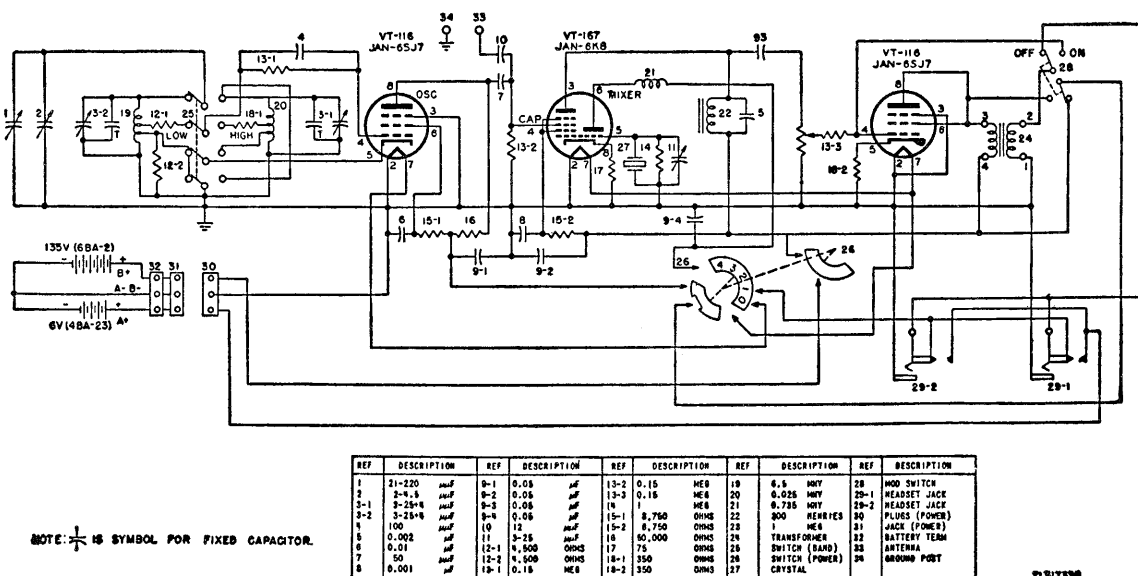
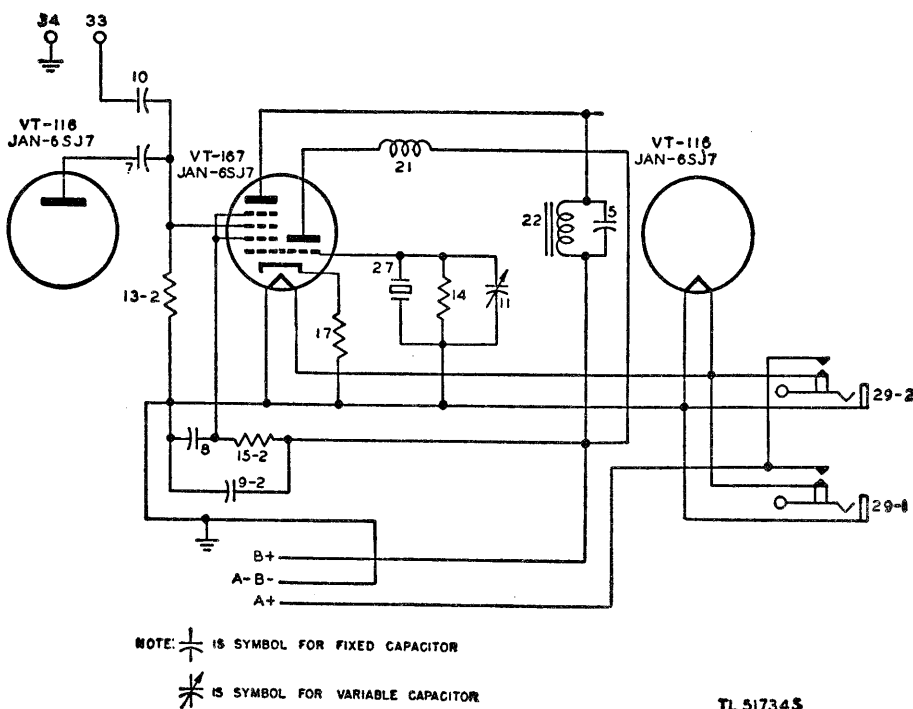

Figure 104. Frequency Meter BC-221-AN, schematic diagram.
Figure 105. Frequency Meter BC-221-AN, crystal oscillator circuit.
Frequency Meter BC-221-AN is similar to Frequency Meter BC-221-Q (ch. 3) with regard to the operation of the variable frequency oscillator, the detector and crystal oscillator, and the audio-amplifier circuits. A five-position operation switch is used, however, instead of the four-position switch which was used on earlier models. This five-position switch controls one additional circuit; the filament of the variable frequency oscillator tube. At the STAND-BY position of the switch, only the filament of variable frequency oscillator Tube JAN-6SJ7 (VT-116) draws current. When the toggle switch labeled MODULATION is at ON, it provides audio modulation in either the CRYSTAL or OPER position of the operation control switch. At ON position, the circuit of the audio-amplifier stage is changed to that of an audio oscillator which is coupled to the plate circuit of the variable frequency oscillator so that modulation of the r-f output will take place. (See fig. 104.)
The crystal circuit uses the triode section of Tube JAN-6K8 (VT-167) shown in figure 105. The oscillator operates at the fixed frequency of 1,000 kilocycles (kc) when operation switch 26 (fig. 104) is set at either CRYSTAL or CHECK. The operation switch controls the crystal oscillator by opening or closing its plate voltage circuit. The oscillator circuit is designed to generate considerable harmonic energy so that it can be used to calibrate the variable frequency oscillator at several points over its entire range, as well as to supply whole multiples of 1,000 kc for the calibration of receivers and similar equipment. The necessary plate circuit impedance is built up across choke coil 21. Resistor 14 is the oscillator grid leak and works in conjunction with tube cathode resistor 17. Variable capacitor 11 is connected across crystal 27 for the purpose of adjusting the frequency of the crystal to a closer point than can be economically obtained by grinding alone. When the frequency meters are adjusted during manufacture, the variable capacitor is set so that the oscillator produces a frequency of 1,000 kc \pm 5 cycles at 20° centigrade. For further details on the crystal oscillator, see paragraph 22.
e. OSCILLATOR FUNCTION. (1) The variable frequency oscillator is in operation at the **CHECK** and **OPER** positions of operation switch 26. (See fig. 104.)
(2) At **CHECK**, the output of oscillator Tube JAN-6SJ7 (VT-116) is applied to one of the grids of detector-converter Tube JAN-3K8 (VT-167) where it is mixed with the output frequency of the crystal circuit. The output of this stage has a frequency equal to the difference between the two input frequencies. The **CORRECTOR** control is used to tune the signal to zero beat, so that the accuracy of the variable fre-
359. Power Supply Circuit (fig. 104)